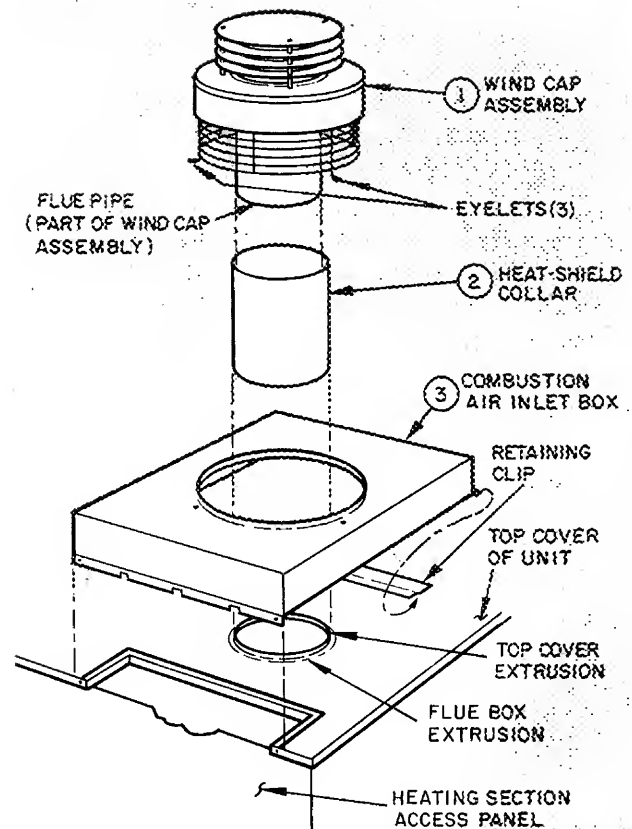

Fig. 2 — Wind Cap and Air Inlet Box Assembly
**Locate** — The wind cap assembly, heat-shield collar and combustion-air inlet box (items 1, 2 and 3 of Fig. 2) are shipped within the condenser section except 460 volt units.
#### Assemble (Fig. 2)